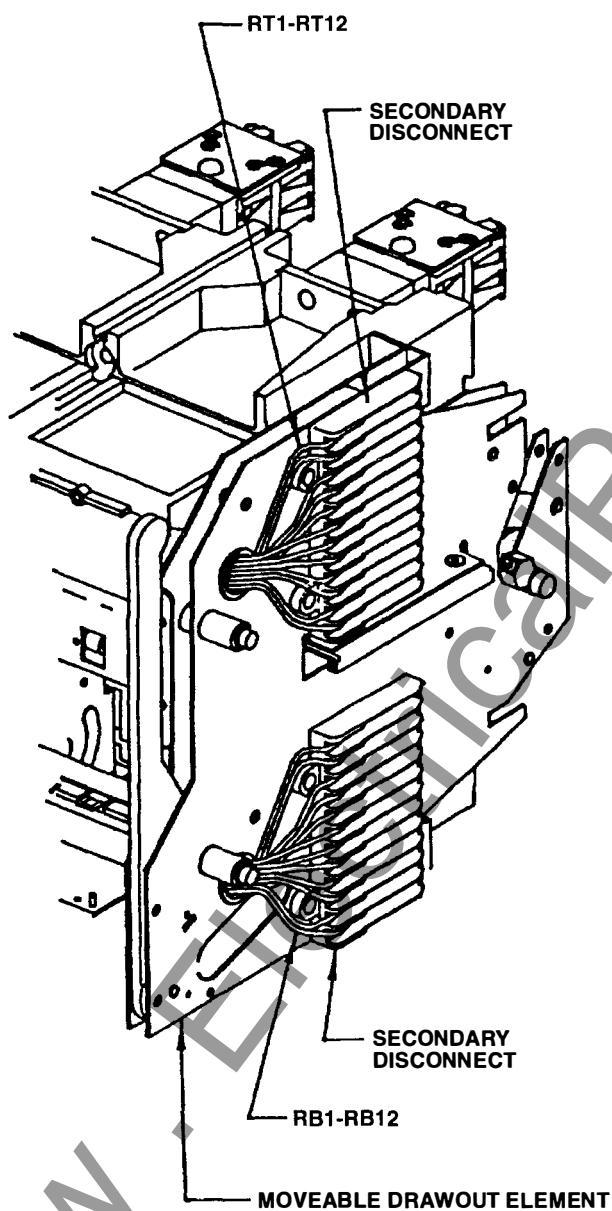

Figure 9
19. For drawout breakers route wires through the hole in the drawout moveable element. Connect the RT1-RT12 and RB1-RB12 connectors to the proper Secondary Disconnect locations (See Figure 9).